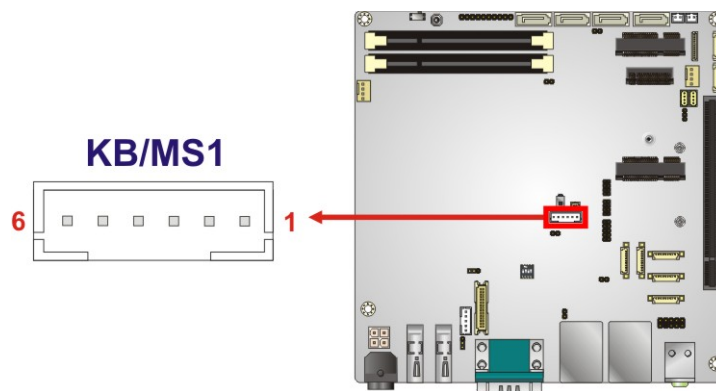

Figure 3-10: Keyboard/Mouse Connector Location
- CN Location:** See **Figure 3-10**